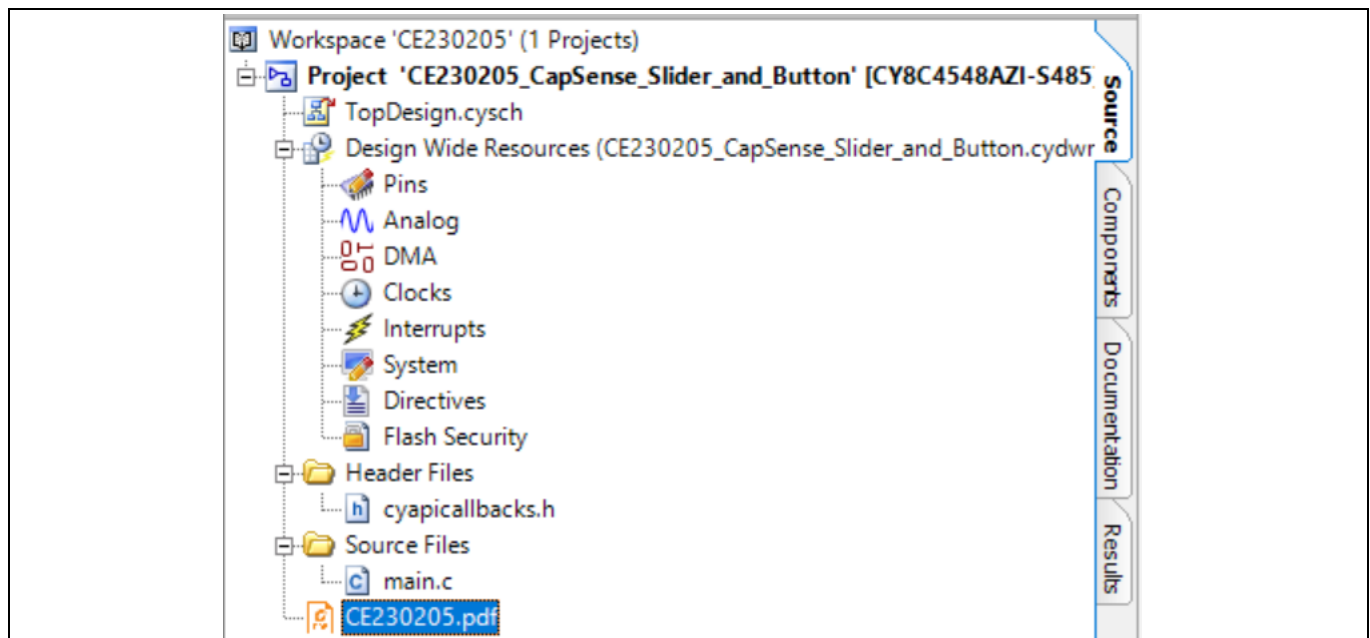

Figure 18 CE230205.pdf
- From the workspace explorer in PSoC Creator, open *CE230205.pdf* as shown in Figure 18 to learn more about how to verify the functionality of the code example.